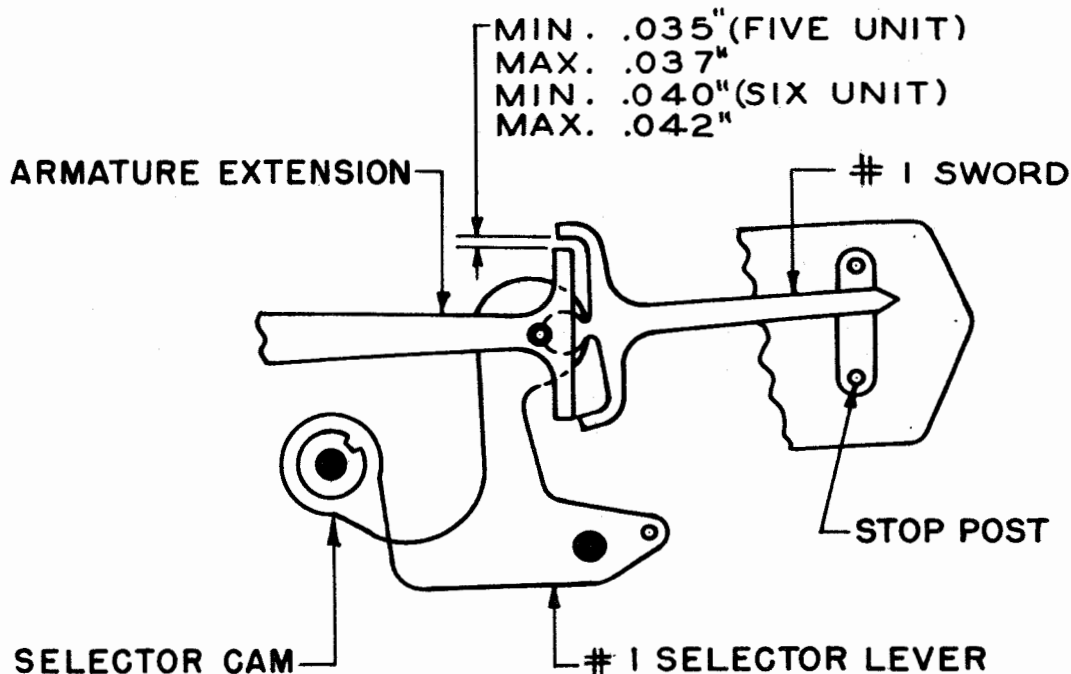

Figure 17
2.19 No. 1 Sword Arms\* (pulling magnet) should clear the associated arms of the armature extension by minimum 0.035 inch, maximum 0.037 inch (five-unit), minimum 0.040 inch, maximum 0.042 inch (six-unit), as indicated in Figure 17, when the end of the opposite sword arm is against its armature-extension arm and the No. 1 selector lever is on the high part of its cam.